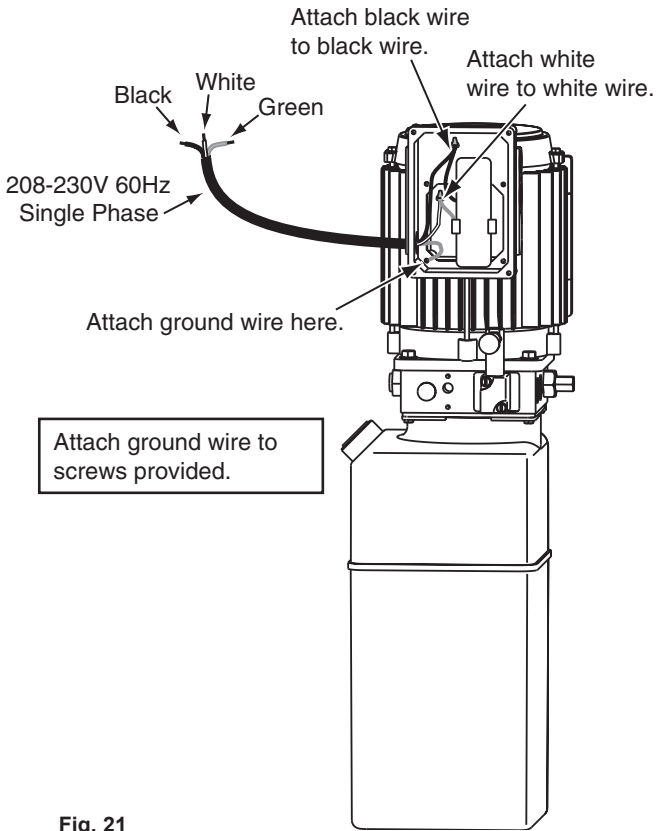

Fig. 21
11. **Electrical:** Have a certified electrician run appropriate power supply to motor, Fig. 21, & Fig. 22. Size wire for 25 amp circuit. See Motor Operating Data Table.